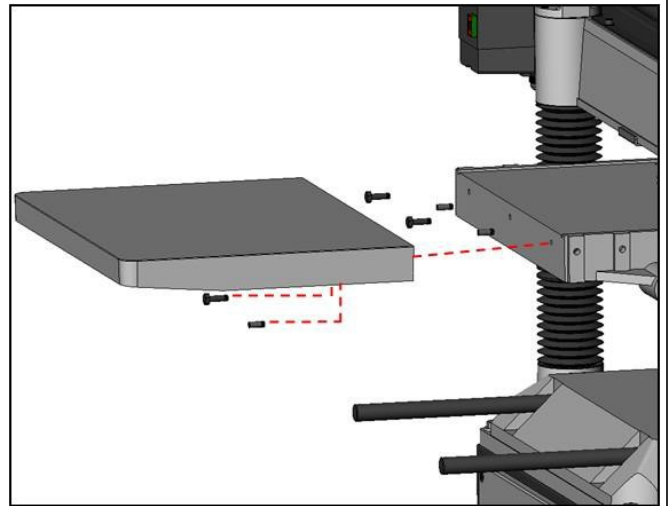

Fig. 2
2. Insert the bolts and loosely secure with washers and nuts. (Fig. 2).